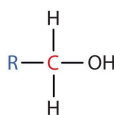

Figure 23.1e. Structure of primary (1°) alcohol (credit: *Intro Chem: GOB (V. 1.0)*, CC BY-NC-SA 3.0).
- A **primary (1°) alcohol** is one in which the carbon atom (in red) with the OH group is attached to *one* other carbon atom (in blue) (Figure 23.1e.). Its general formula is RCH_2OH .